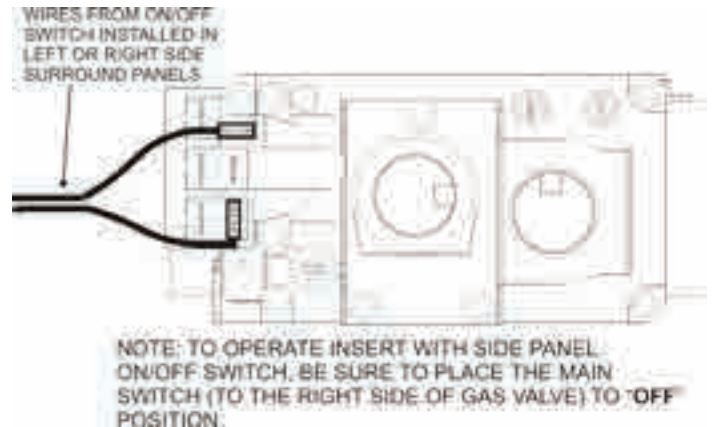

Figure 18
2. **Millivolt Valve** - Attach the flag terminal ends to the "TH/TP" and "TH" terminals on the front terminal block of the gas valve. **See Figure 18.**
- a. For millivolt valve connections, **See Figure 18.**